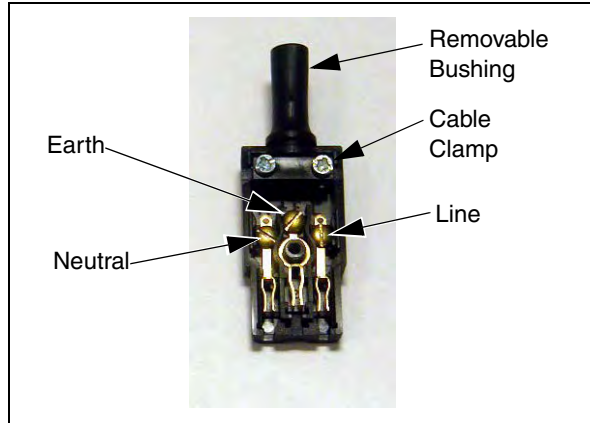

Figure 4-7. AC Power Mating Connector
3. Loosen the two screws on the cable clamp. See Figure 4-7 on page 59.